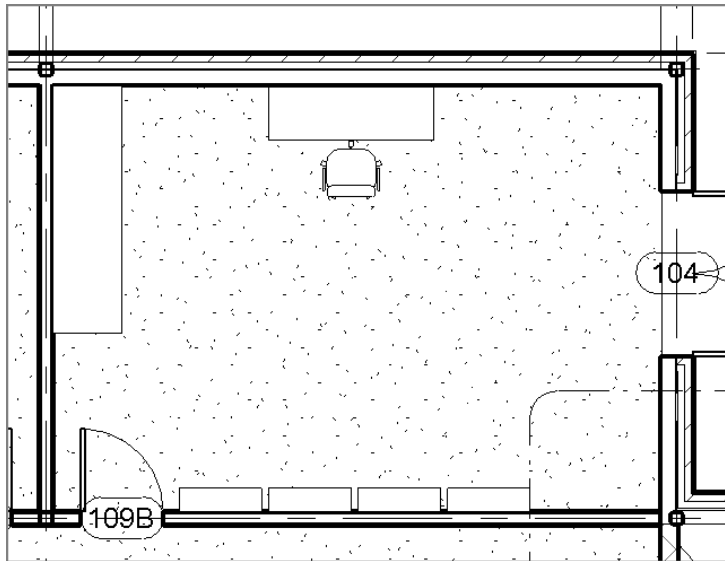

FIGURE 9.50: Adding furniture to the office
10. From the Type Selector, select Chair-Executive, and place it in front of the credenza, as shown in Figure 9.50.
11. In the Type Selector, select the Entertainment Center 96" × 84" × 30" (2743 × 2134 × 762mm) and place it in the corner (see Figure 9.50).
12. Place four 36" (915mm) shelving units across the south wall, as shown near the bottom of Figure 9.50.